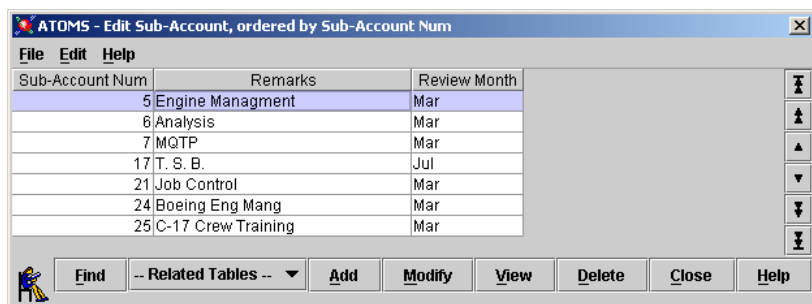

Figure 4-7. Edit Sub-Account Window
Sub-Accounts represent individuals or organizations that submit need requests to a TODO. ATOMS tracks the Sub-Accounts for a TODO with the following fields on the Edit Sub-Accounts window (Figure 4-7):
- 1) From the menu bar, select **Edit, Sub-Account**. The Edit Sub-Account window appears (Figure 4-7), displaying all current Sub-Accounts.
Notice in Figure 4-7 that the Sub-Account numbers are not necessarily sequential, usually because of a Sub-Account transfer or deletion. Any unused number may be used to override the default value ATOMS assigns, if desired.
- 1) From the menu bar, select **Edit, Sub-Account**. The Edit Sub-Account window appears, displaying all current Sub-Accounts (Figure 4-7).